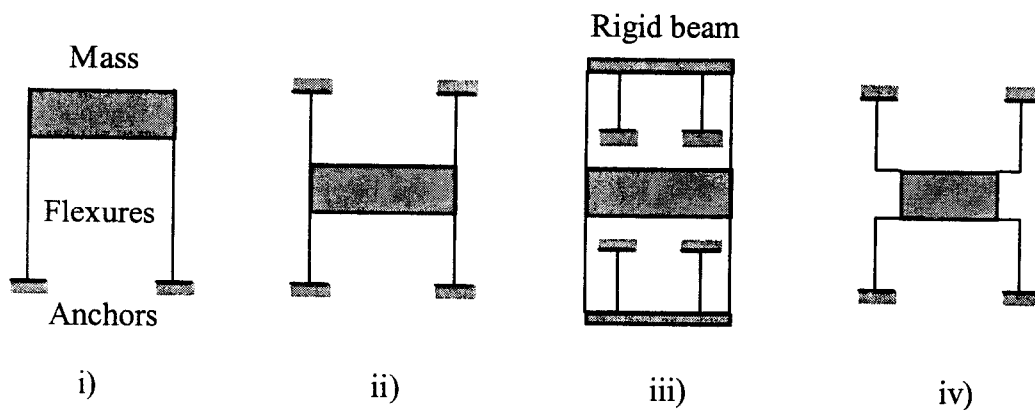

Figure 7.1
7. a) Figure 7.1 shows, in plan view, four different types of elastic suspension used in microelectro-mechanical systems (MEMS). Explain briefly how they each operate, and describe any special advantages they might have. [8]
- b) A silicon MEMS beam has cross-sectional dimensions of  $100\text{ }\mu\text{m} \times 10\text{ }\mu\text{m}$ . Calculate the value of the second moment of area  $I$  for bending of the beam about its two orthogonal axes. A flexure suspension of type i) in Figure 7.1 is fabricated in a  $100\text{ }\mu\text{m}$ -thick layer using  $10\text{ }\mu\text{m}$ -wide beams, each of length  $2\text{ mm}$ . Calculate the lateral stiffness of the suspension. [12]